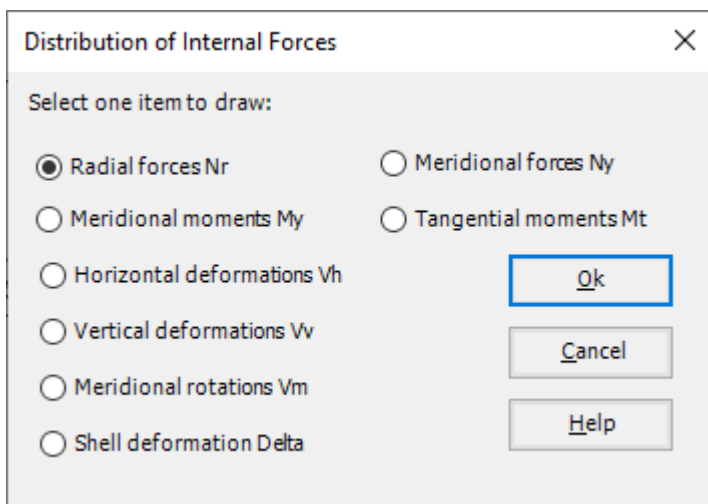

Figure 11.28 "Distribution of internal forces" option box
- From "Rotational shell results" command in the "Results" menu, choose "In Plan" command. The following option box in Figure 11.28 appears